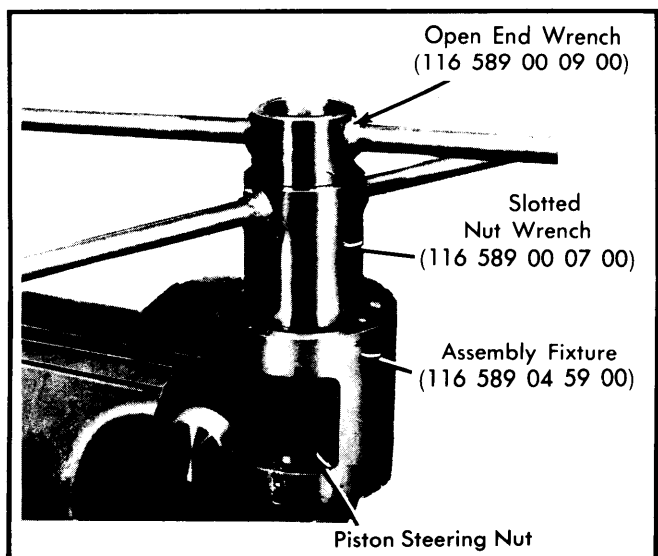

Fig. 4 Removing Worm Gear Nut from Piston Steering Nut
10) Using suitable clamp and tools, remove worm gear nut from piston/steering nut. See Fig. 4. Remove seal ring and "O" ring from worm gear nut.